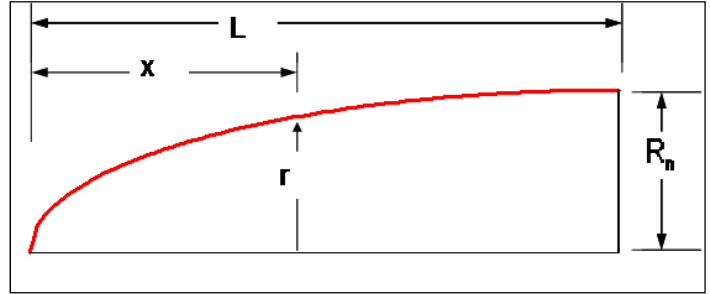

Figure A-2. Elliptical Nose Geometry
The hemispherical is also a special case of the elliptical nose shape, where the major axis is along the center line (L) and minor axis at the base of the nose cone (R_n). This geometry can be seen in Figure A-2.